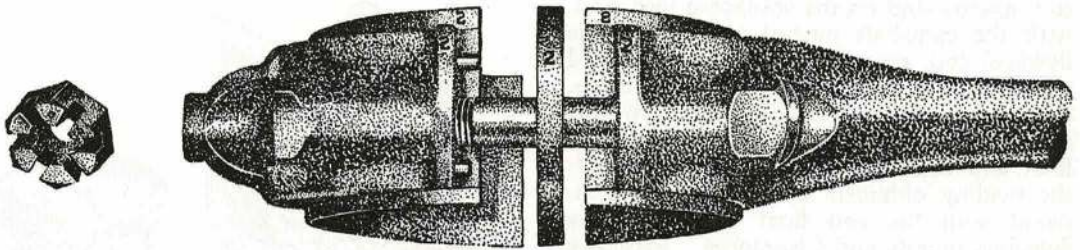

Fig. 12. ASSEMBLY MARKS
33. All normal precautions must be observed. Parts must be thoroughly clean and should be visually examined for damage before being fitted. All working parts should be smeared with clean lubricating oil. Observe assembly marks (Fig. 12), and ensure that all parts are fitted in the correct way. Make certain that all locking devices are securely fitted; it is advisable to turn up slightly the tabs of any locking washers before fitting, as this will facilitate final locking. Take care not to overtighten any nuts. When a torque loading is specified, or a special spanner or tool, always adhere to the instructions. Use new gaskets or seals, and only use jointing compound as and when instructed to do so.